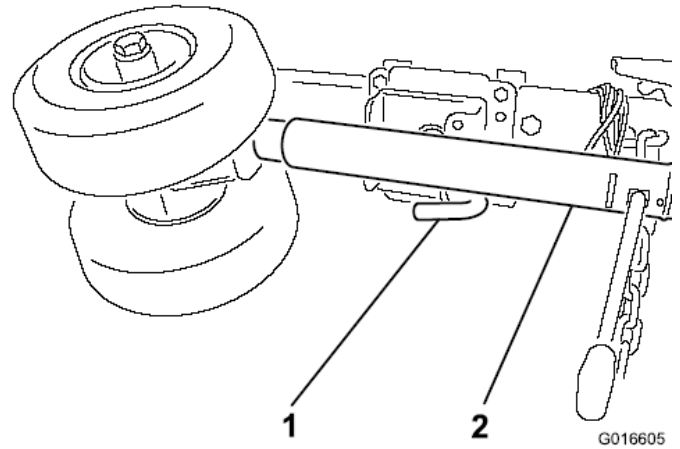

Figure 6
8. Raise jack stand (Figure 6) so caster wheels are free of the ground, pull the release pin and rotate wheels rearward and lock in the horizontal position.